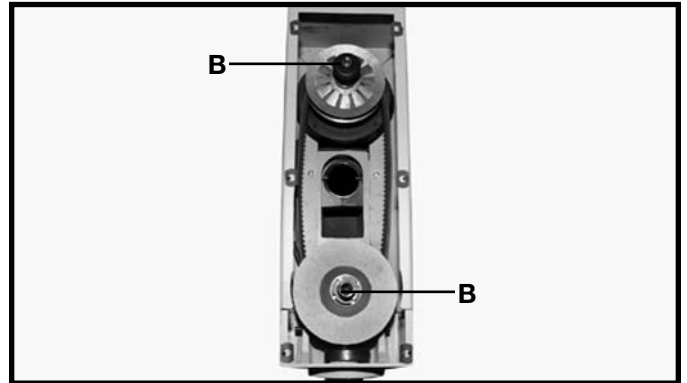

Fig. 31
3. The variable speed pulleys should be oiled weekly with a few drops of light machine oil in the two oil holes (B) Fig. 31, located on top of the variable speed pulleys.